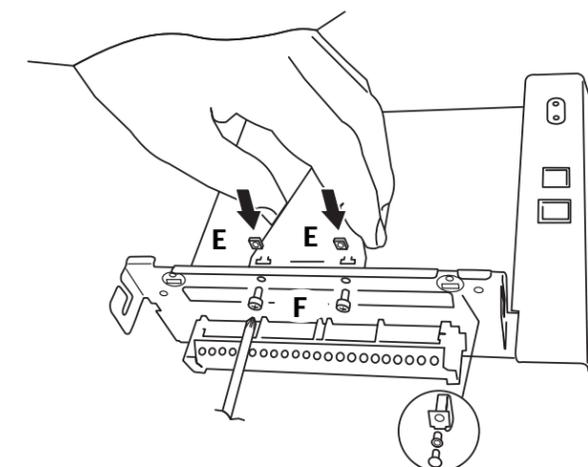

Figure 4.7 Fit the board guide extrusion and EMC spring (if required)
3. Insert two square nuts ('E' in figure 4.7) into the board guide extrusion, then secure the extrusion with the screws provided ('F' in the figure).
4. Fit an EMC spring if required (not needed for relay boards) and secure with a plastic rivet, as shown in figure 4.7.